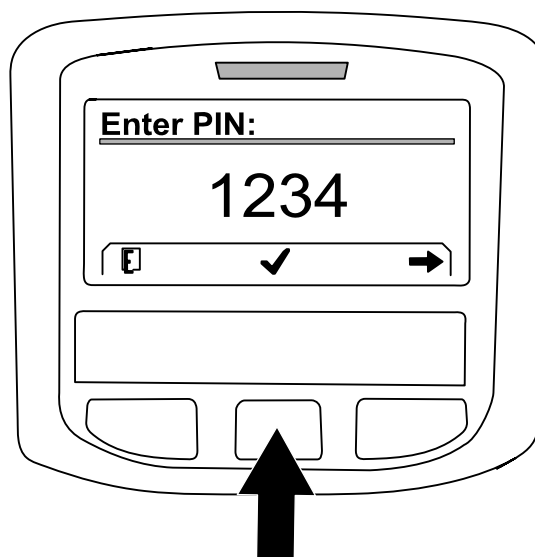
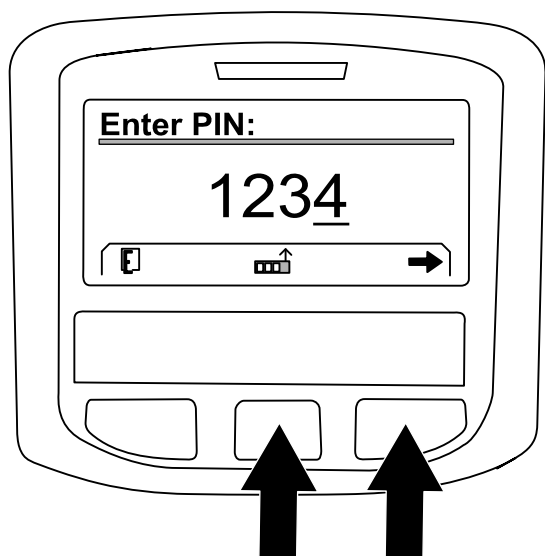

Figure 228
Figure 227
- A. Press the center button as needed to enter the PIN code number for the left position (Figure 227).
- B. Press the right button to navigate to the next PIN code number position (Figure 227).
- D. When all the PIN code numbers are entered press the right button (Figure 227) and then press the center button to enter the PIN code (Figure 228).